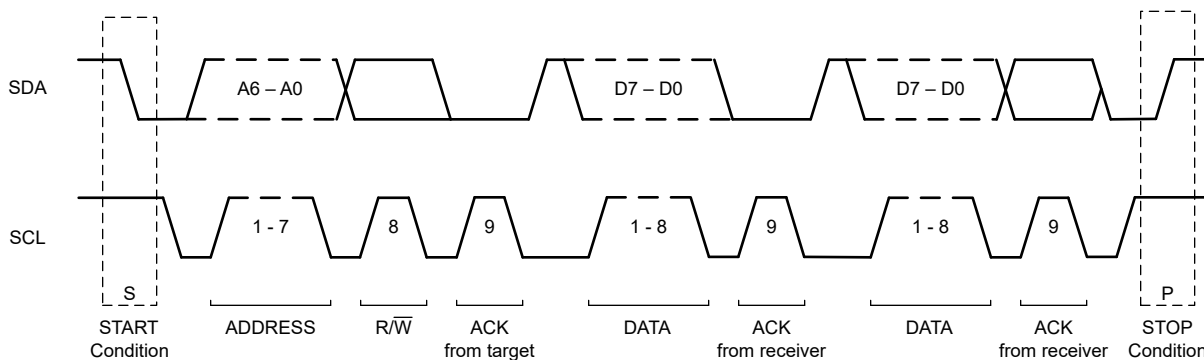

Figure 7-15. I²C Data Transfer Format
Figure 7-15 shows the format of the data transfer. The controller initiates all transactions with the ADS1x2C14 by generating a START (S) condition. A high-to-low transition on the SDA line while SCL is high defines a START condition. The bus is considered to be busy after the START condition.